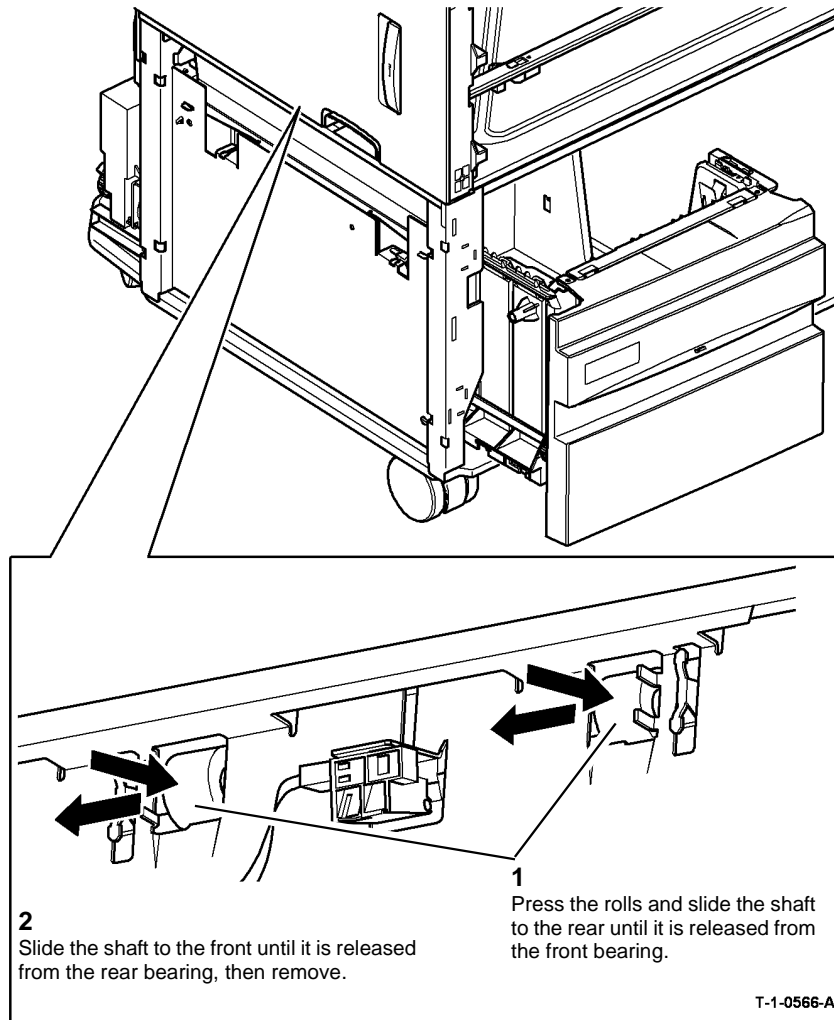

Figure 3 Remove the transport roll
- Remove tray 3 and tray 4 transport roll, Figure 3.